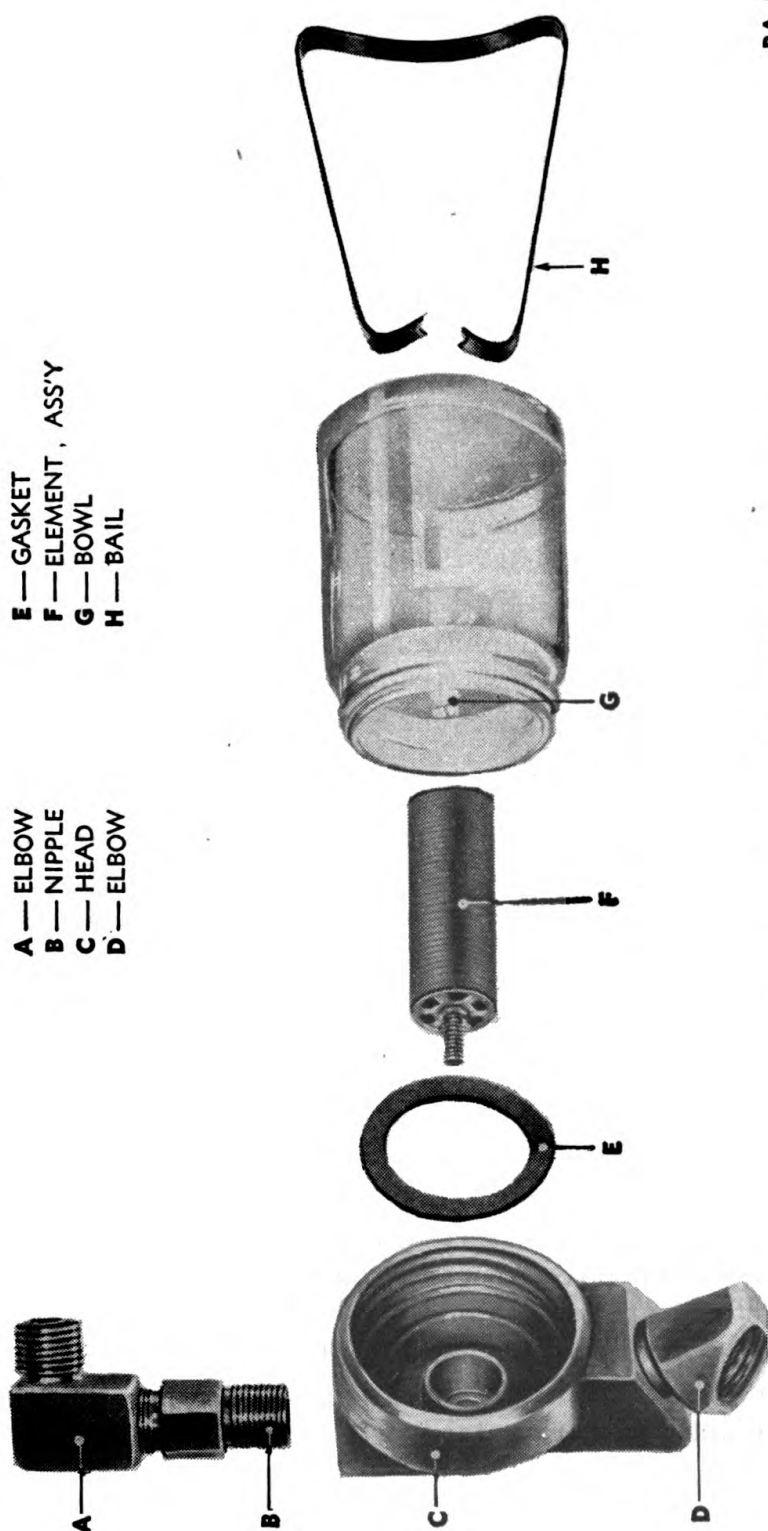

FIGURE 188.—Carburetor fuel filter, exploded view.
d. Fuel filter disassembly (fig. 188).—Tools: